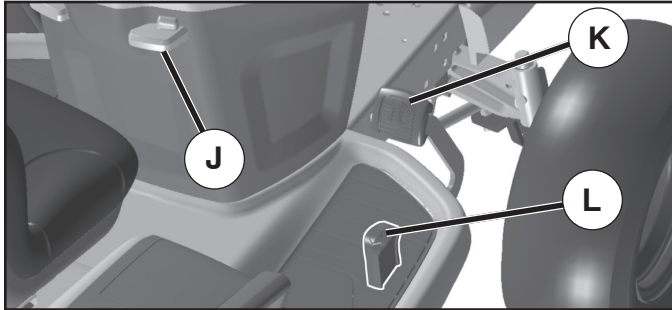

FIG. 7
TO MOVE FORWARD AND BACKWARD (See Fig. 7)
TO USE CRUISE CONTROL (J) (See Fig. 7)